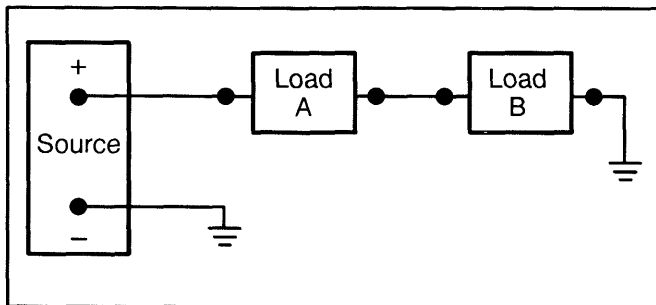

Figure 12 — Series Circuit
**SERIES CIRCUITS (Figure 12)** – In a series circuit, the electrical devices are connected to form one current path to and from the power source. In a series circuit the voltage is shared equally by all the devices in the circuit.